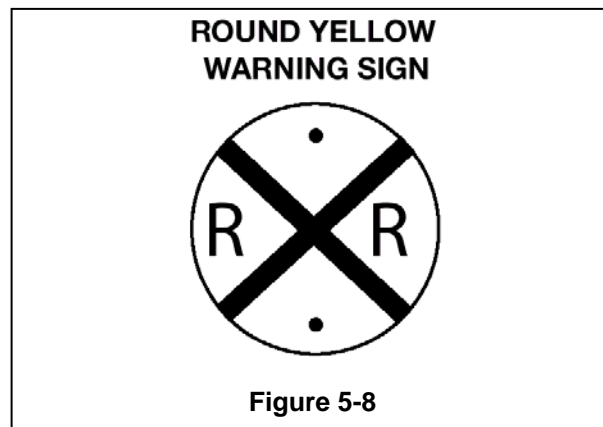

Figure 5-8
**Advance Warning Signs.** The round, black-on-yellow warning sign is placed ahead of a public railroad-highway crossing. The advance warning sign tells you to slow down, look and listen for the train, and be prepared to stop at the tracks if a train is coming. See Figure 5-8.